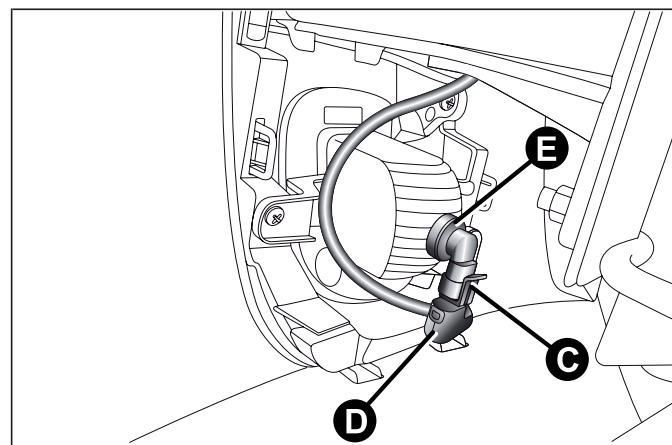

fig. 134
- ☐ adjust the catch C and disconnect the electrical connector D fig. 134;